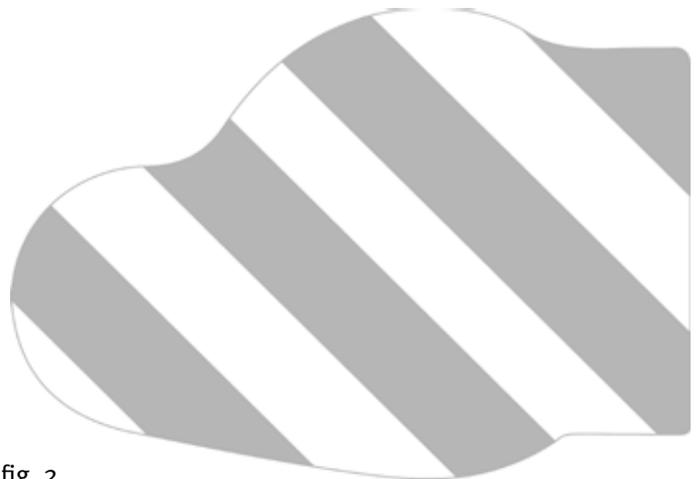

fig. 2
12. Cut out the engine backplate using the enclosed template (fig. 2). It is not necessary to fit too tightly. However, you should not cut out too generously so that sufficient sealing surface remains for the engine plate.